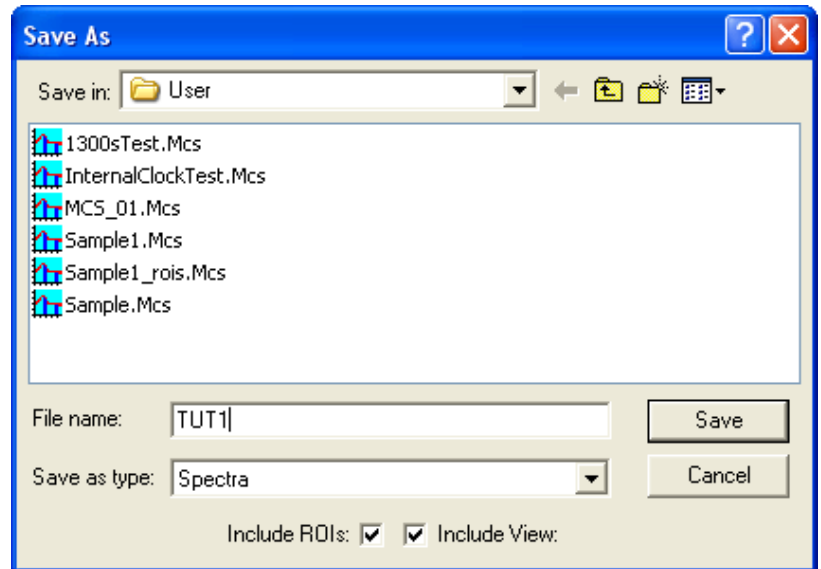

Fig. 8. Save File TUT1.MCS.
- Select **Save Data As...** from the **File** menu. This will open the dialog shown in Fig. 8.